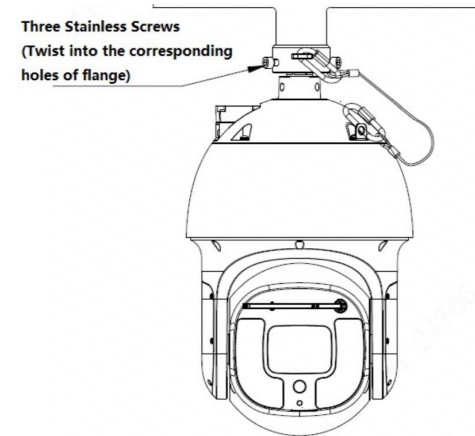

Figure 2-3
**Step 3** Connect PTZ cable and wall cable, make sure both are waterproofed properly. Install the three stainless screws into the corresponding screw holes of flange, use the hex tool to tighten the three stainless screws, as shown in Figure 2-3.